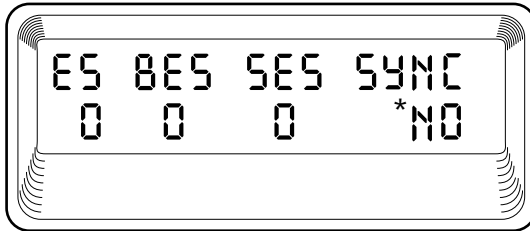

Figure 4-19
The results of this check are shown under submenu item 4)PATTERN RESULTS (see Figure 4-19).